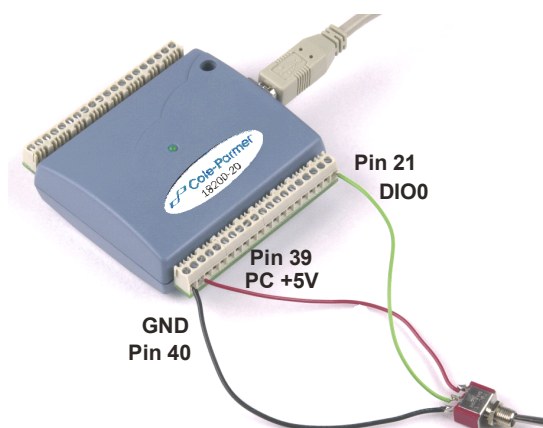
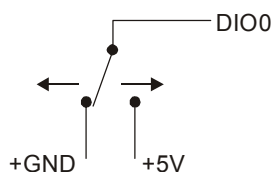

Figure 3-4. Digital connection DIO0 detecting the state of a switch
Figure 3-5. Schematic showing switch detection by digital channel DIO0
When you configure the digital bits for input, you can use the 18200-20 digital I/O terminals to detect the state of any TTL-level input. Refer to the switch circuit shown in Figure 3-4 and the schematic shown in Figure 3-5. If you set the switch to the +5 V input, DIO0 reads *TRUE* (1). If you move the switch to GND, DIO0 reads *FALSE* (0).